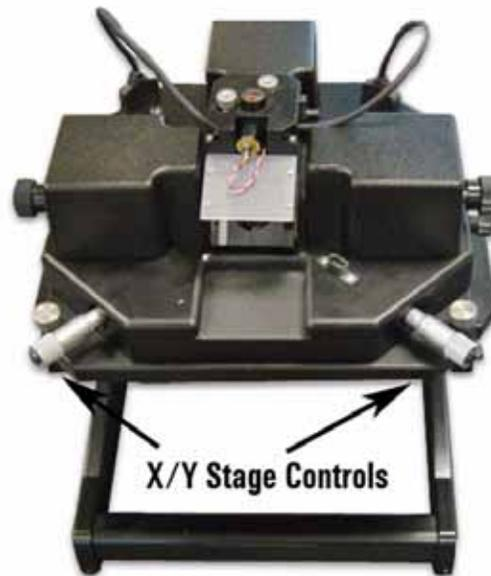

Figure 65 Stage control micrometers
- 11 Locate the area of interest on the sample by manually moving the X/Y stage control micrometers (Figure 65) while watching the video window.